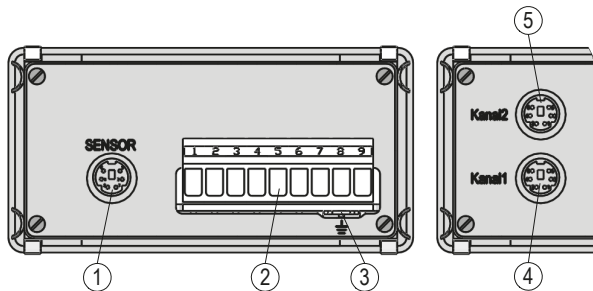

Fig. 2: Connection
Via 6 pole rear side Mini-Din socket (see Fig. 2).
- 9 pin coupler strip (see Fig. 2).